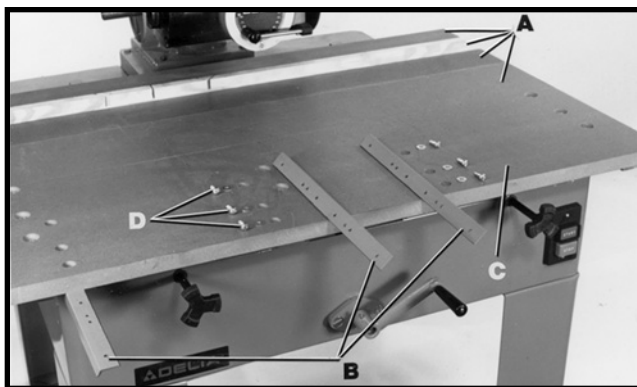

Fig. 15
1. Assemble loose table boards and fence (A) Fig. 15, on the table brackets.
2. Assemble three angle supports (B) Fig. 15 to the fixed front table board (C) using nine 1/4-20x7/8" round head screws and 9/32" flat washers (D).